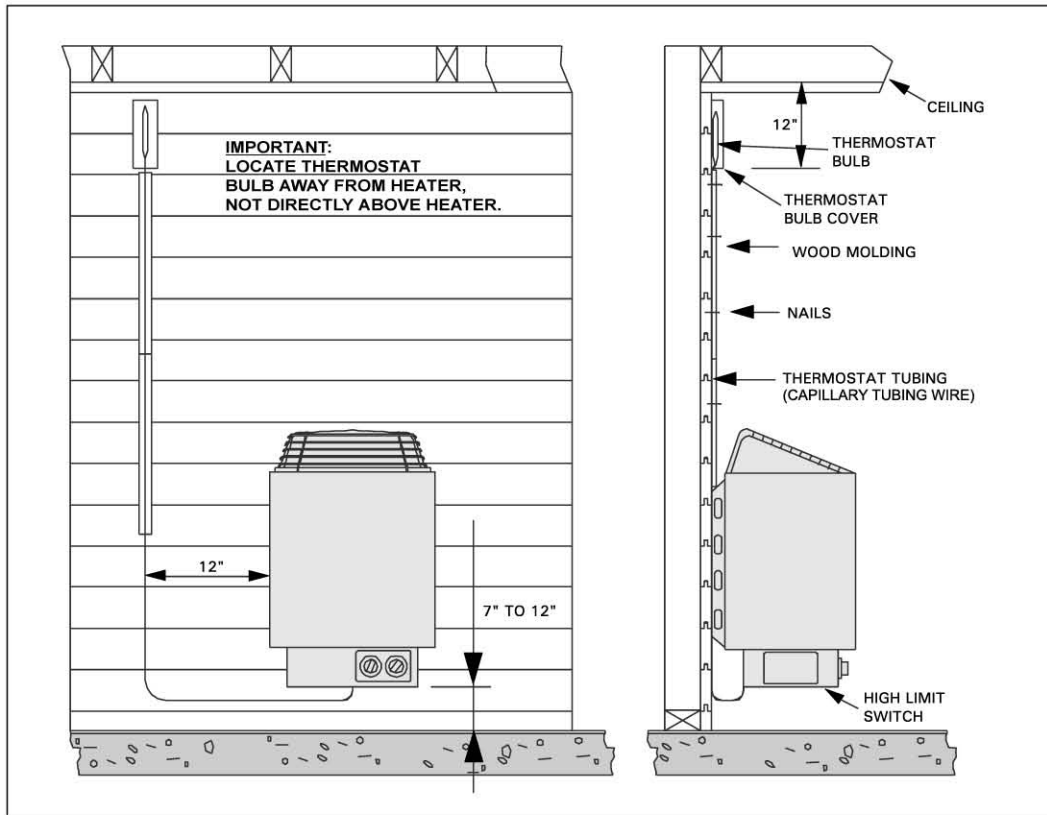

Figure 5a.
3. FLB and KIP-B style heaters have a thermostatic bulb (located in the junction box of the heater) that must be run up the face of the interior Sauna room wall. See figure 5a for proper thermostatic bulb placement. **DO NOT MOUNT SENSOR BULB DIRECTLY ABOVE THE HEATER** or room will not get hot enough.